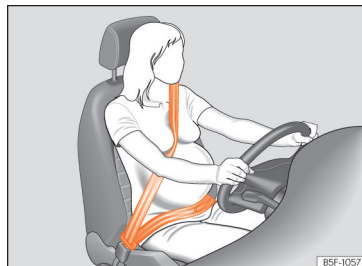

Fig. 13 Position of seat belt during pregnancy.
In the case of **pregnant women**, the seat belt must lie evenly across the chest and as low as possible over the pelvis, never across the stomach and must be worn properly at all times during the pregnancy »» Fig. 13.
- For pregnant women, the lap part of the seat belt must lie as low as possible over the pelvis and always lie flat, "surrounding" the stomach»» Fig. 13.